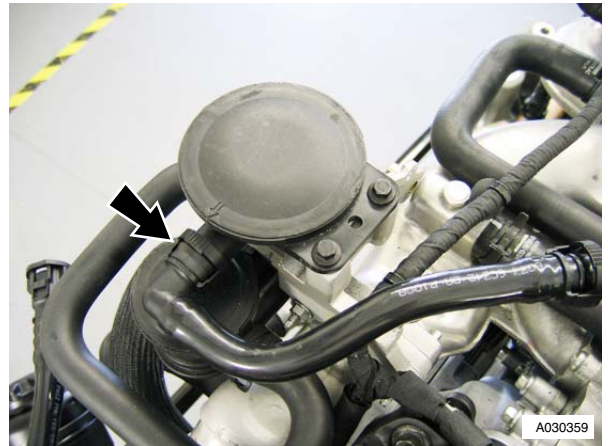

Figure 6
7. Disconnect breather hose (quickfit) (refer to Figure 6).